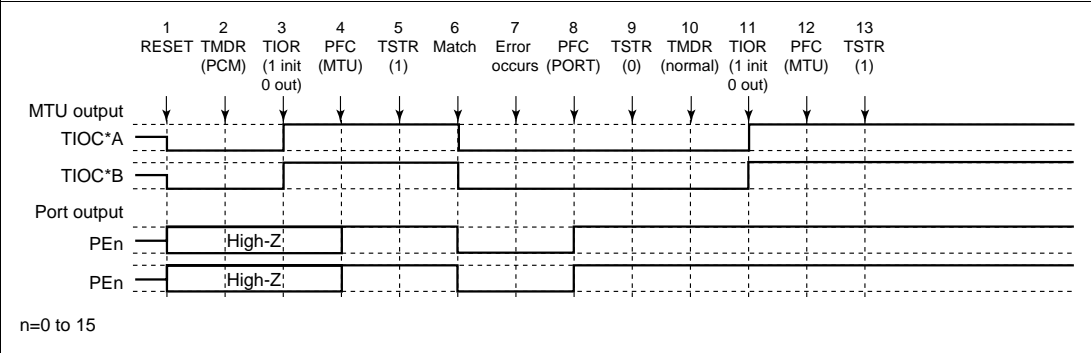

Figure 12.112 Error Occurrence in Phase Counting Mode, Recovery in Normal Mode
(17) Operation when Error Occurs during Phase Counting Mode Operation, and Operation is Restarted in Normal Mode: Figure 12.112 shows an explanatory diagram of the case where an error occurs in phase counting mode and operation is restarted in normal mode after re-setting.
1 to 9 are the same as in figure 12.112.
- 1 to 9 are the same as in figure 12.112.